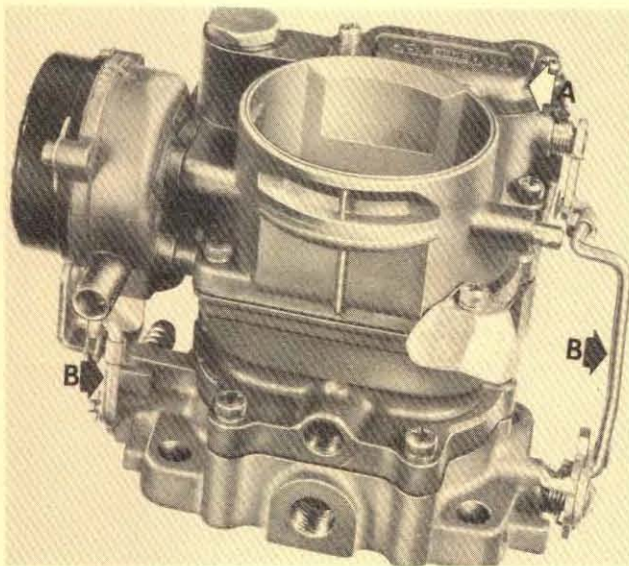

Fig. 1
1. Remove the metering rods dust cover, "A" Figure 1. Disconnect the metering rods from the vacuumer link by using a scratch awl or a pointed instrument and pushing outward on the eye of the rod and then extract the rod.
Unsnap the clips and remove the choke rod and accelerator pump rod, "B" Figure 1.